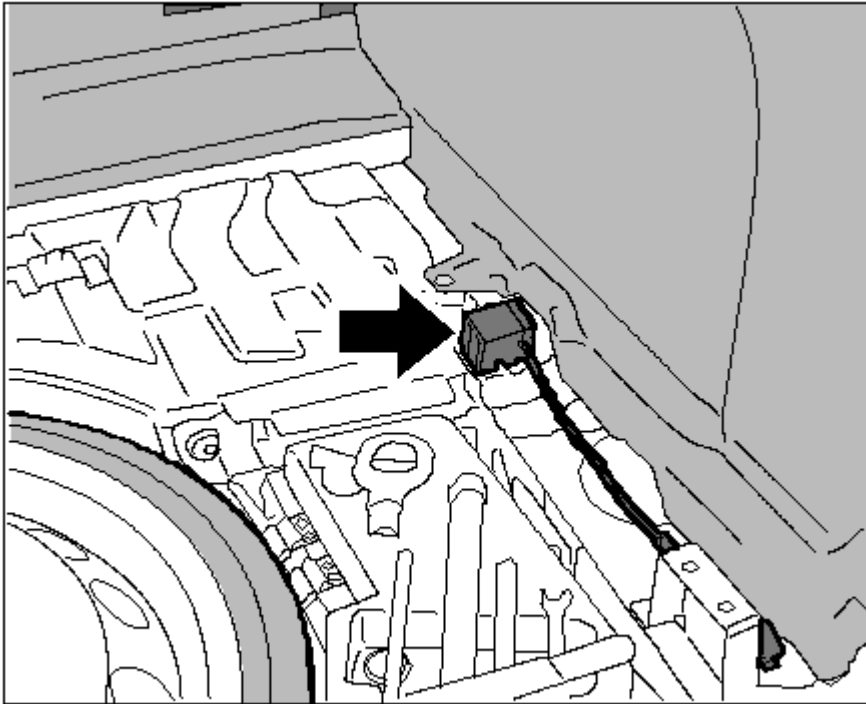

Fig. 110: Sensor for body at rear
1. Insert sensor with holder in the correct position -**arrow**- and tighten the fastening nut. See **Fig. 110**.